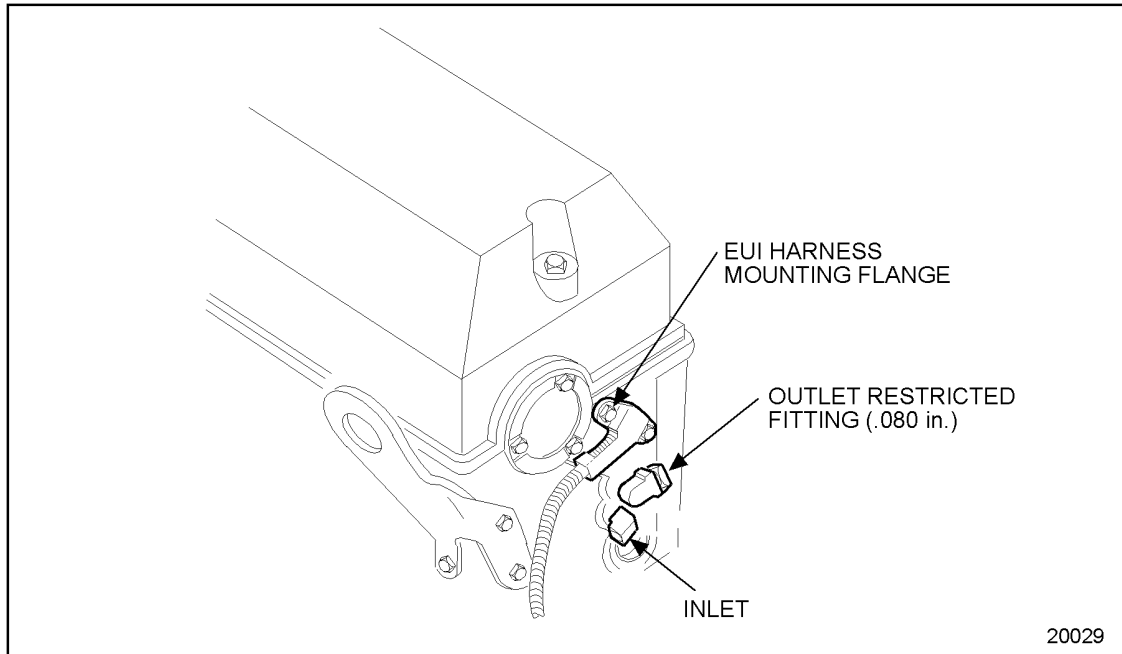

Figure 1-24 Fuel Gallery Inlet and Outlet Fittings
Fuel galleries machined into the head supply fuel under fuel pump pressure to all injectors, and excess fuel is returned to the fuel tank. The fuel gallery outlet (restricted) fitting is installed in the rear of the cylinder head. See Figure 1-24.
21. Remove the harness mounting flange from the rear of the cylinder head and carefully remove the harness from the head by pulling the harness through the hole in the cylinder head. See Figure 1-24.